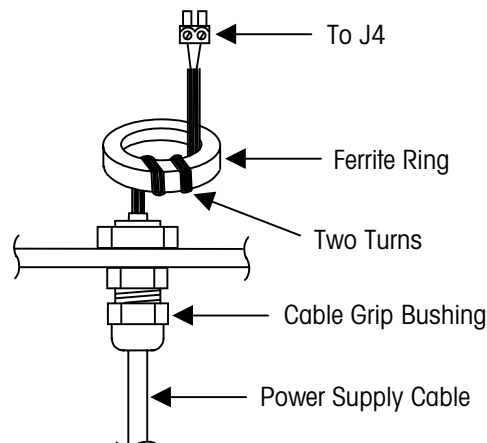

Figure 2-2: Ferrite Ring Installed with Power Supply Cable
3. Wrap the cable around the ferrite ring two times, as shown in Figure 2-2.